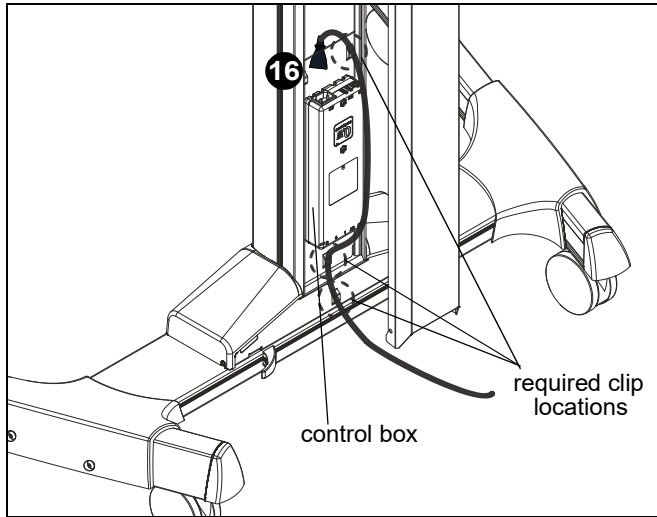

Figure 9
16. Plug in power cable (V) to control box and route along side of control box. Provide strain relief using the cable ties (K) and cable clips. All three cable clips **MUST** be used to prevent cable from rubbing against lower edge of cover! (See Figure 9)